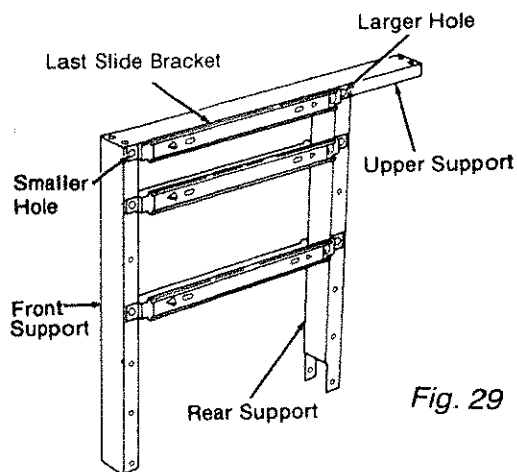

Fig. 29
32. Put the last *rear support* in front of you with the long tabs down, short tabs up and solid surface facing you. Attach two *slide brackets* to the right side of this shown in the figure. Make sure that you attach the larger hole in each *slide bracket* to the *rear support*. Put a lockwasher and hex nut on each bolt and tighten using a 7/16 wrench or socket. (Figure 29)
33. Attach the *front support* to the two *slide brackets* using two truss head bolts. Make sure that the solid surface of the *front support* is facing front. Put a lockwasher and hex nut on each bolt and tighten with a 7/16 inch wrench or socket. (Figure 29)